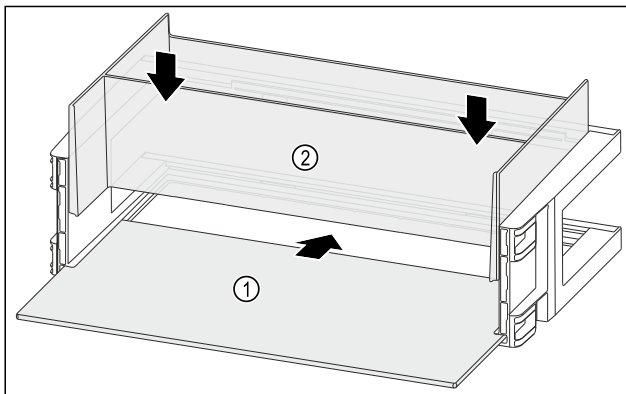

Fig. 114
- ▶ Push the shelf Fig. 114 (1) into the side recesses.
- ▶ Insert the organiser Fig. 114 (2).